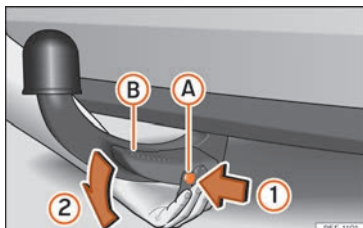

Fig. 305 Removing the tow hook
- Press the release bolt (A) in the direction of arrow (1), and at the same time press lever (B) as far as it will go in the direction of arrow (2) » Fig. 305.